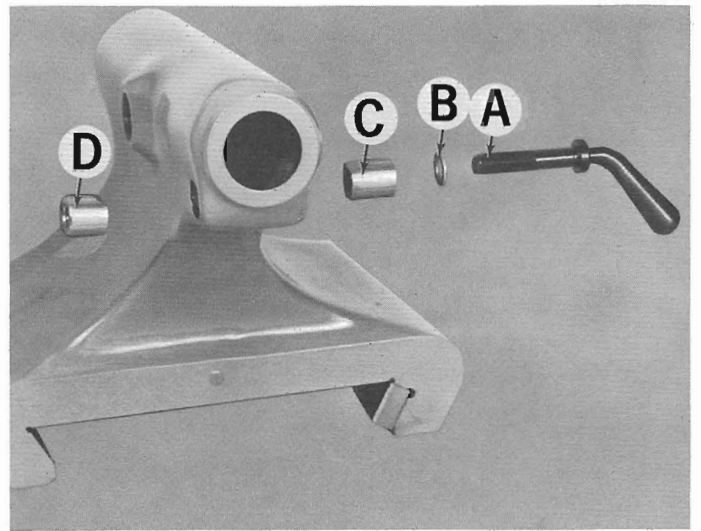

Figure 181 — Spindle Lock and Components
3. To remove locking lever "A", Figure 181, and components:
- (A). Turn lever "A", Figure 181, counterclockwise to remove shim "B" and binding nut sections "C" and "D".
2. To replace spindle locking lever "A", Figure 181, and components:
- (A). Replace binding nut sections "C", Figure 181, and "D". **ANGLED FLATS ON NUT SECTIONS MUST BE PLACED AGAINST TAILSTOCK SPINDLE OR SERIOUS SCORING OF SPINDLE WILL RESULT.** Nut sections should be flush with casting when properly positioned.
- (B). Replace shim "B" on lever "A" and insert lever through nut section "C" and thread into nut section "D".